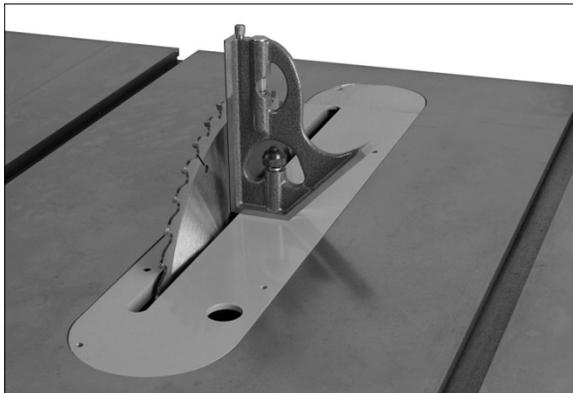

Figure 23
3. Raise blade all the way, and place a 90° square on the table and against the blade (Figure 23). Make sure that a blade tooth does not obstruct the actual reading.